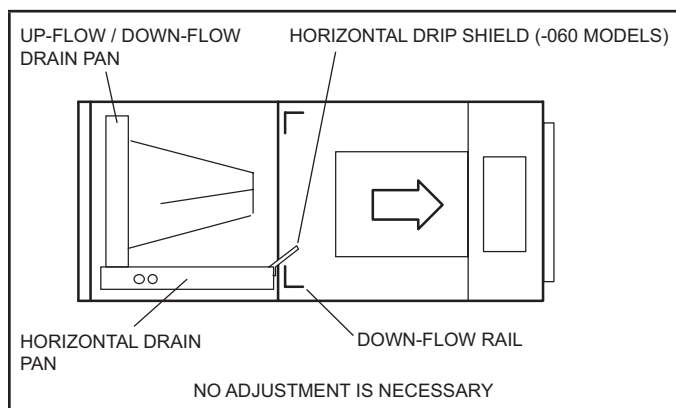

FIGURE 5. Right-Hand Discharge Configuration
- 2 - Install the horizontal drip shield (-060 model) on the front edge of the horizontal drain pan as illustrated in figure 5.